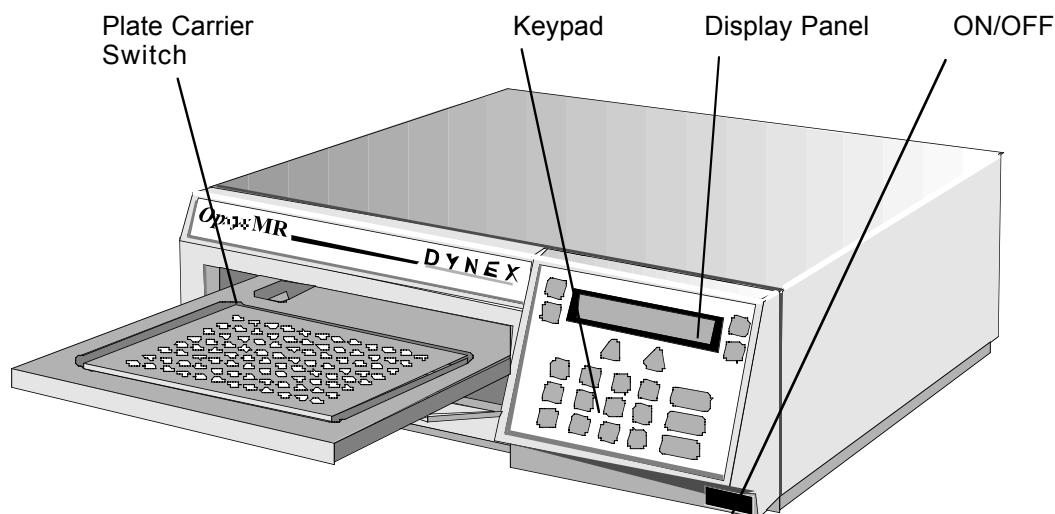

Figure 3. The *Opsys MR*
The *Opsys MR*[™] instrument is shown in Figure 3. All of the components (except the optional printer) are contained with the instrument.
3. Push the instrument power switch once (Figure 3). After a series of self-tests, the following will be displayed: